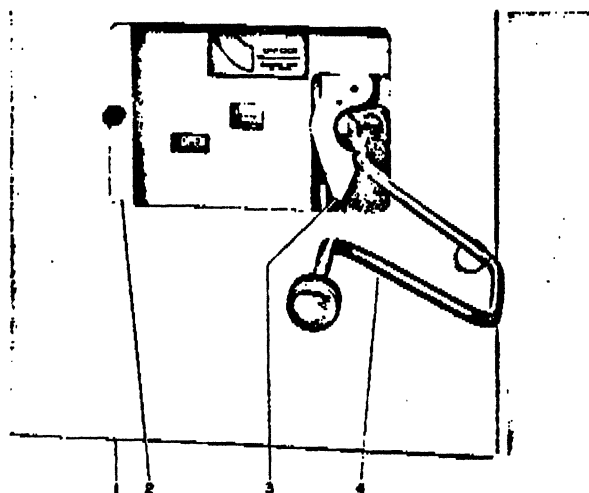

Fig. 4 — Method of Racking Circuit Breaker
Engage racking crank (4, Fig. 4) and push racking unlocking lever (3) to left, then rotate racking crank counterclockwise only until resistance to motion is felt. (DO NOT FORCE.)
To rack circuit breaker to "TEST" position, push racking unlocking lever (3, Fig. 4) to left, rotate racking crank approximately $\frac{1}{4}$ turn clockwise, then release unlocking lever. Continue cranking until racking mechanism automatically stops at "TEST" position.
FOR SAFETY: When racking circuit breaker to "CONNECTED" position, close compartment door (1, Fig. 4) and insert racking crank (4, Fig. 4) through sliding panel (2, Fig. 4).
CIRCUIT BREAKER REMOVAL (See Fig. 4)